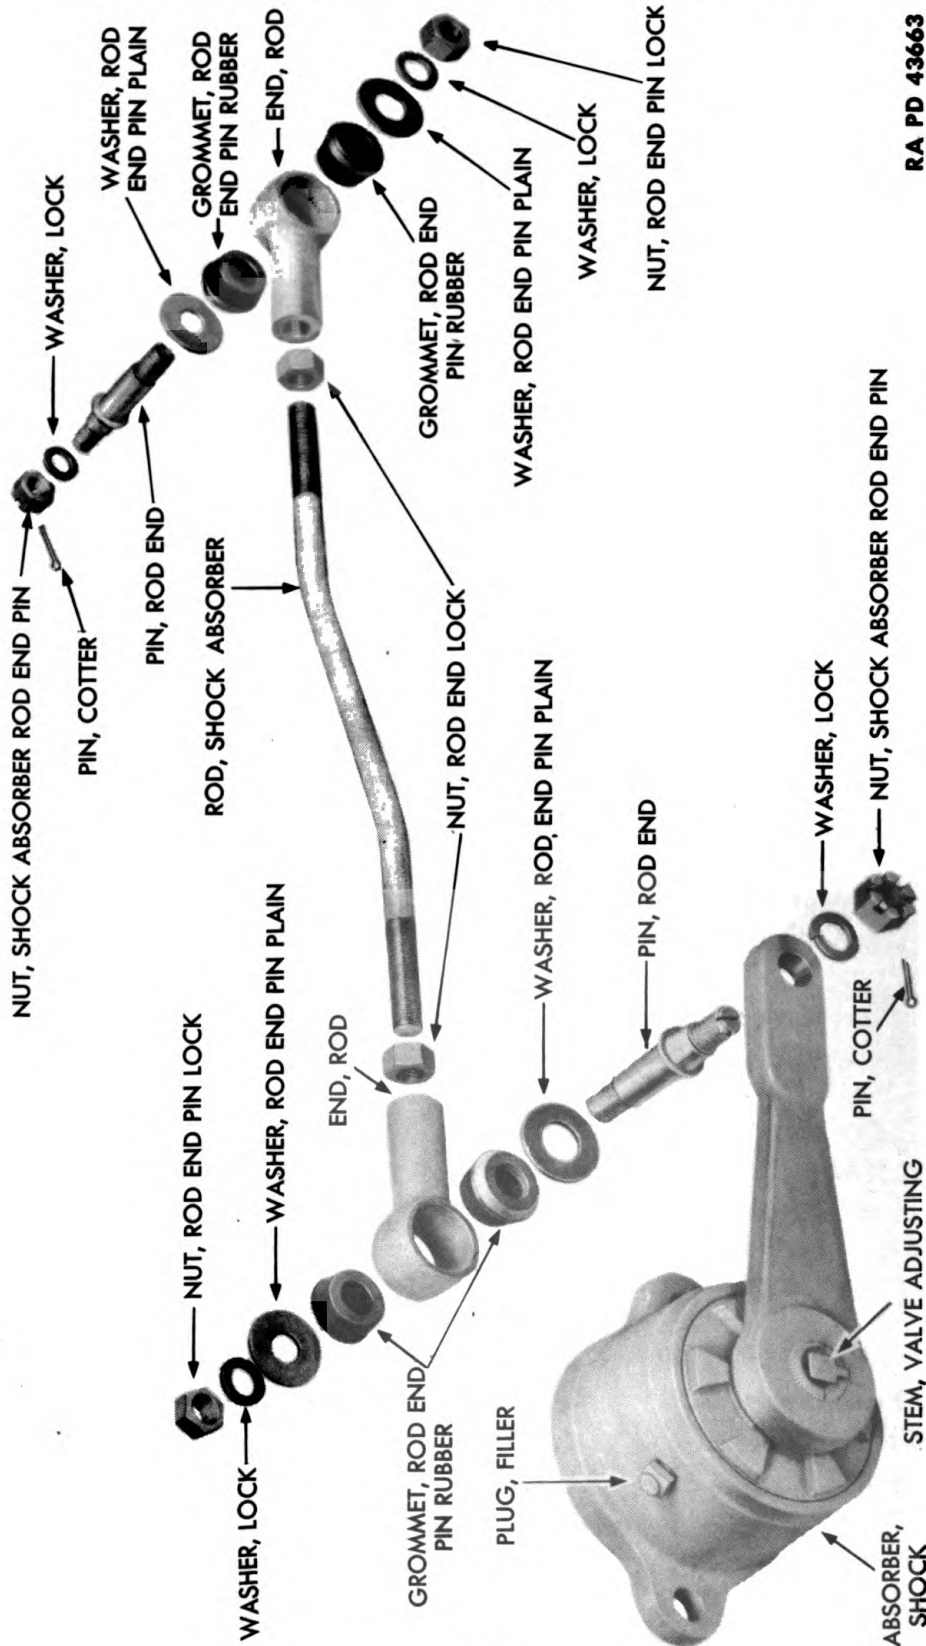

Figure 88—Shock Absorber Rod—Exploded View
(2) **DISASSEMBLE SHOCK ABSORBER ROD ASSEMBLY (fig. 88).**
(a) Install rod end lock nut on rod. Screw rod end on rod (fig. 88). Do not tighten rod end lock nut at this time.